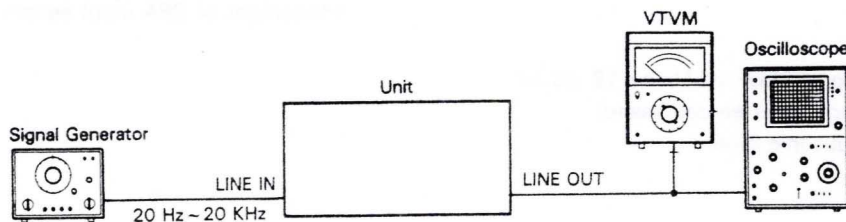

Fig. 7
1. Connect the test equipment to the unit as shown in fig. 7.